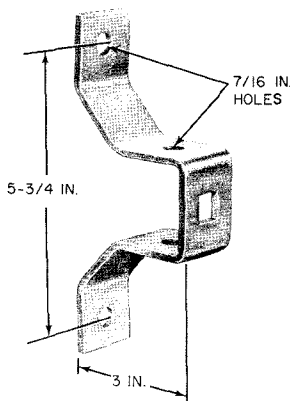

Fig. 6—D Wall Bracket
3.01 D Wall Bracket (Fig. 6): Used in conjunction with a 1-bolt guy clamp for supporting strand on exterior walls of either frame or masonry construction, where not more than 2 inches of clearance is required between cable and wall.